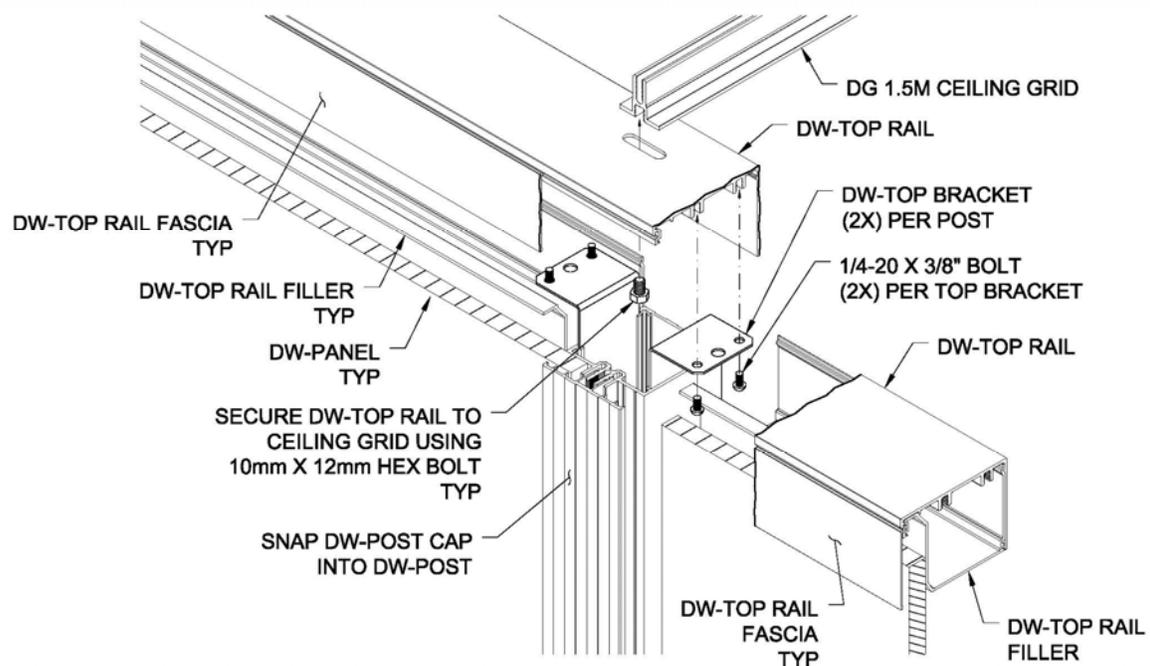

FIG.6
Install post over floor bracket next to wall. Align top bracket holes with top rail screw bosses and fasten with supplied $\frac{1}{4}$ -20 X $\frac{3}{8}$ " bolts. Repeat process using two top brackets per intermediate post. One on each side as shown in **FIG.6.**
8. Install the Top Rail Trim supplied in 2438mm long pieces by snapping into top rail. **FIG.6 & 7**.